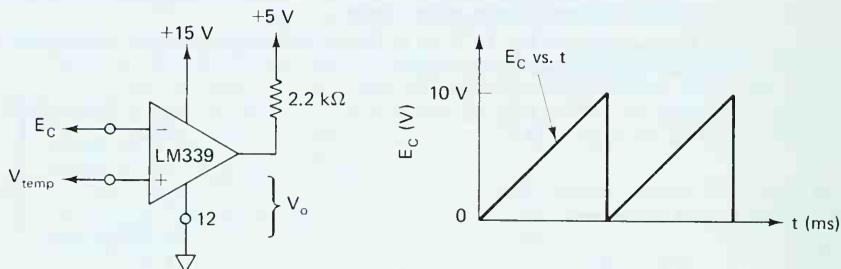

FIGURE P2-14
- 2-14.** The frequency of carrier wave E_c is constant at 50 Hz in Fig. P2-14. If $V_{\text{temp}} = 5$ V, (a) calculate high time T_H ; (b) plot V_o vs. time.